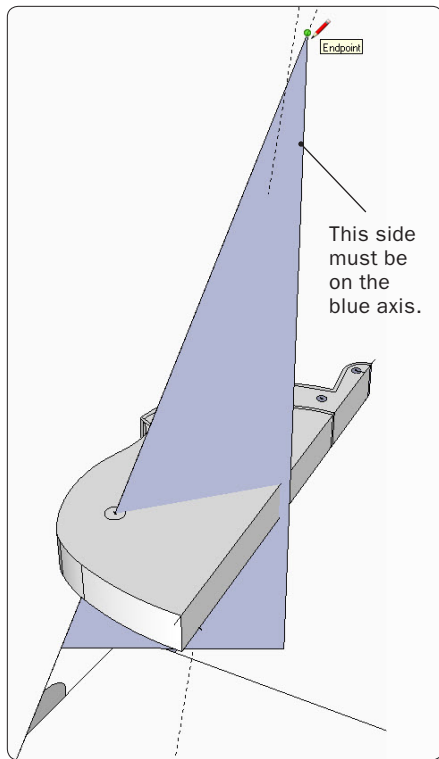

Figure 46. To place sight lines for drilling the leg sockets, begin by drawing a triangle that intersects the seat.
Step 17 Use the Centerline component to determine the drilling angle and sight line for the leg sockets in the seat. (Sight lines, commonly used in Windsor chair making, are transferred to the actual seat blank and help the woodworker drill properly angled sockets.) Use the Tape Measure Tool to double-click on the leg centerlines. This creates guide lines on which to draw a tall triangle that intersects with the seat. Its actual size is unimportant, so long as it extends past the centerline of the seat, as shown in Figure 46. Draw over the guide line first, then extend the line down the blue axis, and finish by connecting with the line over the guide line.